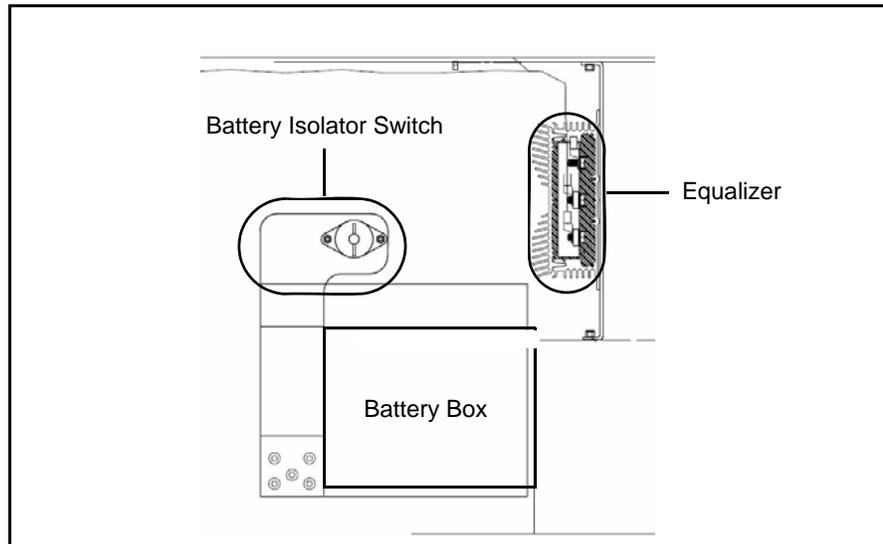

Figure 1-10 Orion NG Sure Power Equalizer Location
3. Locate the battery equalizer in the battery box area. **See Figure 1-10.**